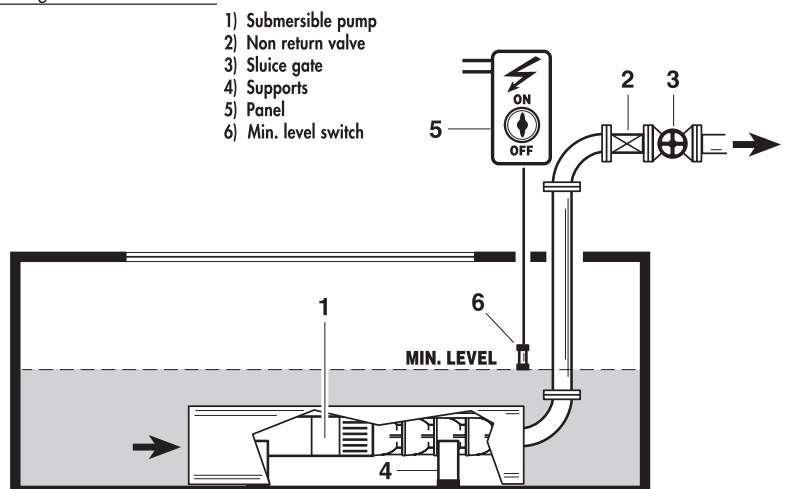

Fig.14
• 2 - HORIZONTAL INSTALLATION IN THE TANK - Figure 14